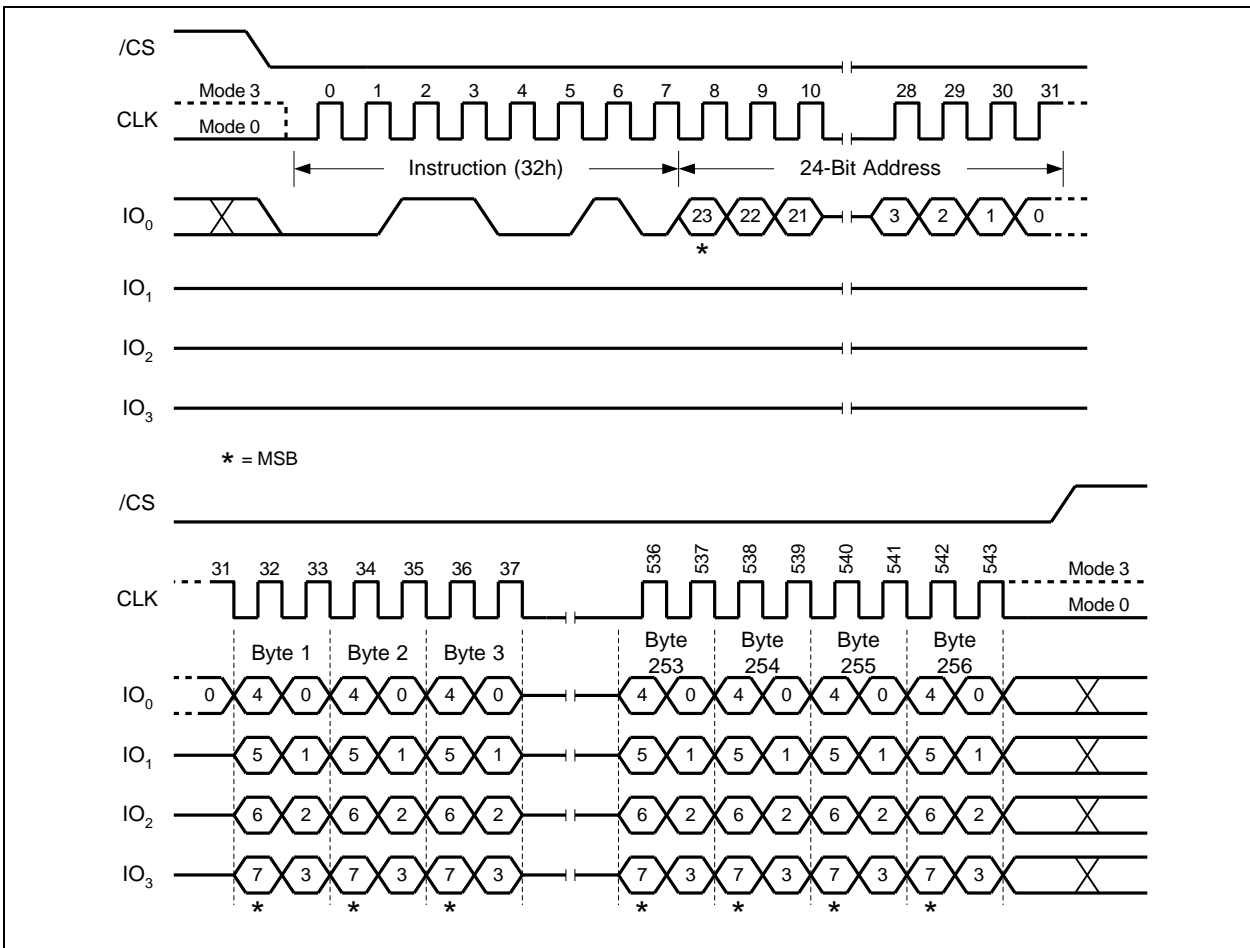

Figure 30. Quad Input Page Program Instruction (SPI Mode only)
To use Quad Page Program the Quad Enable (QE) bit in Status Register-2 must be set to 1. A Write Enable command must be executed before the device will accept the Quad Page Program command (Status Register-1, WEL=1). The command is initiated by driving the /CS pin low then shifting the command code "32h" followed by a 24-bit address (A23-A0) and at least one data byte, into the IO pins. The /CS pin must be held low for the entire length of the command while data is being sent to the device. All other functions of Quad Page Program are identical to standard Page Program. The Quad Page Program command sequence is shown in Figure 30.